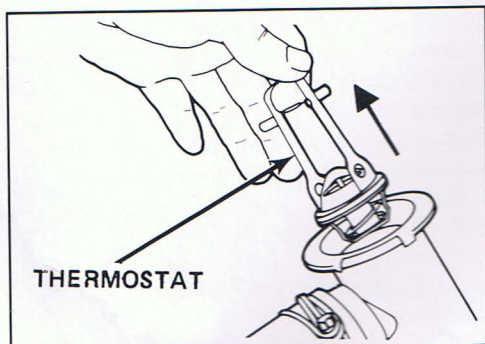

Figure 2 - Thermostat being removed
4. Pull the thermostat straight out. See Figure 2.